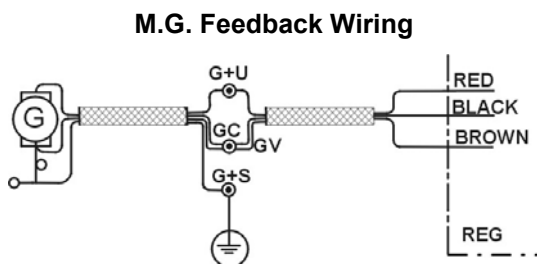

Figure 1-13
- The fourth is for the generator feedback circuits, that consists of two shielded pairs from the controller to the generator armature and the generator inner-poles. [See Figure 1-13.]